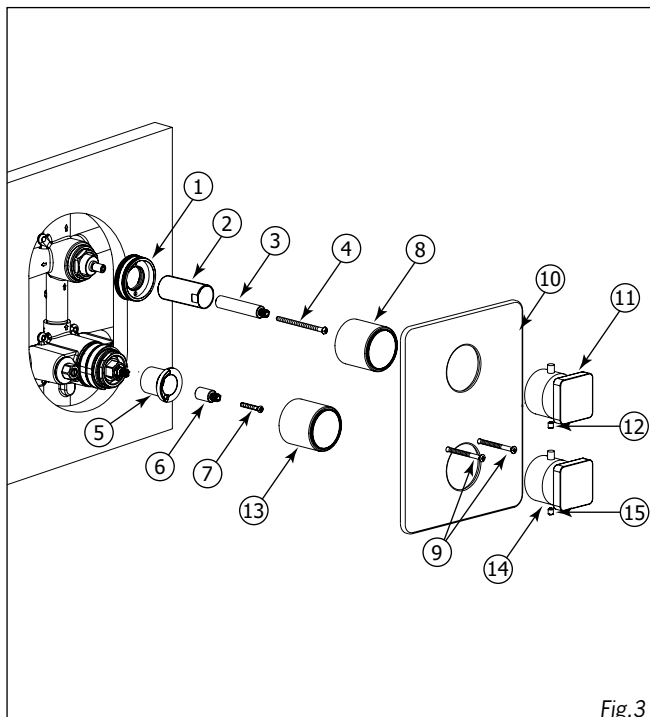

Fig.3
Insert the broach extensions (3 & 6) and secure with the screws (4 & 7). Then screw the components 2 & 1 in place, and put the temperature stop ring (5) onto the thermostatic cartridges (arrow on top). Screw the decorative sleeves (8 & 13) onto the thermostatic and diverter holders (See Fig.3).